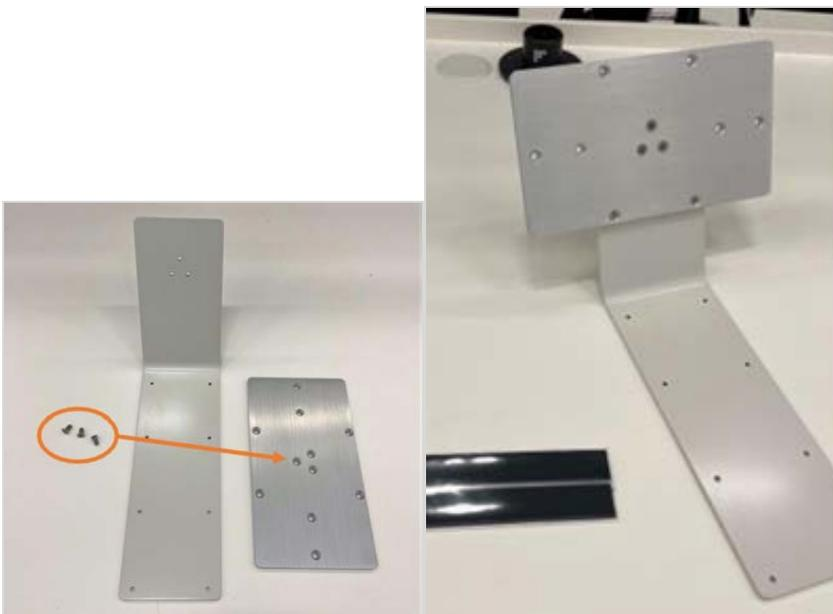

Figure 7: Keyboard mount assembly
1. Use the three #10-32 x 7/16" flat head mounting screws in the center of the base (Fig. 7).